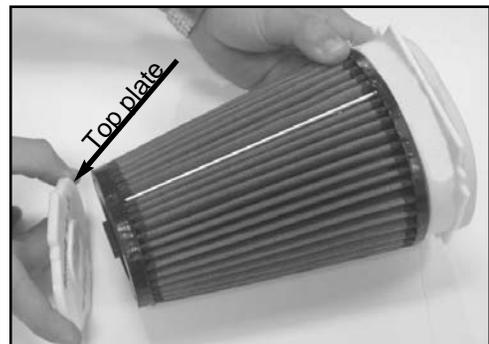

Fig. 4
8. Install the plastic top plate onto the top of the K&N Filtercharger®. (Fig. 4)